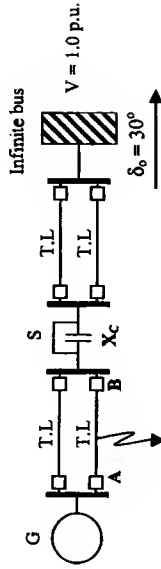

Fig. 4
4. In the system shown in Figure 4, a three-phase fault occurred on one of the transmission lines at the middle point. The switch S is opened simultaneously with circuit breakers A and B. Find the critical clearing angle.
6. The Bode plots for a plant $G(s)$, used in a unity negative feedback system are shown in Figure 4. Find the gain margin and the phase margin.